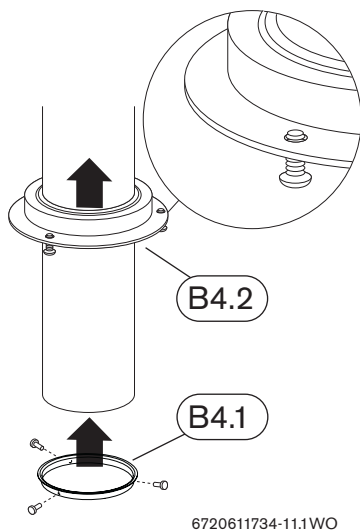

Fig. 11
- ▶ Ensure the screws are only partially screwed into the retaining ring. See Fig. 11